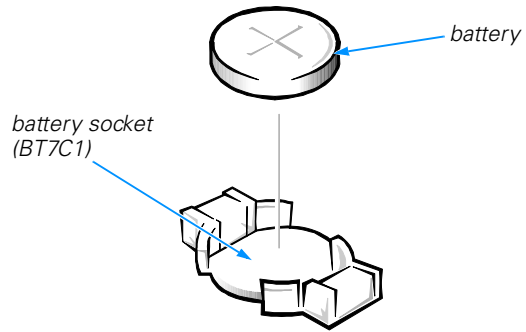

Figure 2-12. System Battery and Battery Socket
4. Insert the battery into the socket with the side labeled "+" facing up (see Figure 2-12).